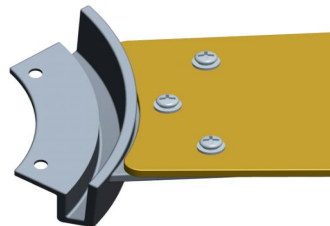

Fig 1.2
1.2 Fig 1.2 shows the schematic diagram of the installed fan blade bracket. Repeat these steps for the remaining blades and ensure all screws are tightened securely.